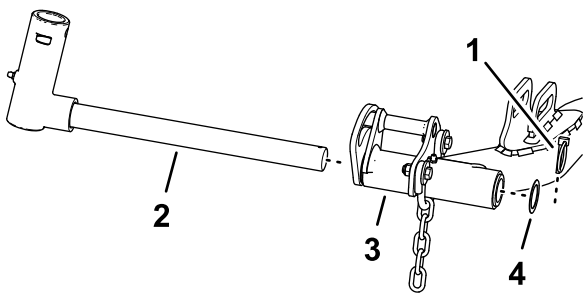

Figure 25
1. Remove the lynch pin and washer securing the pivot yoke to the lift arm and slide the shaft out of the lift arm (Figure 25).